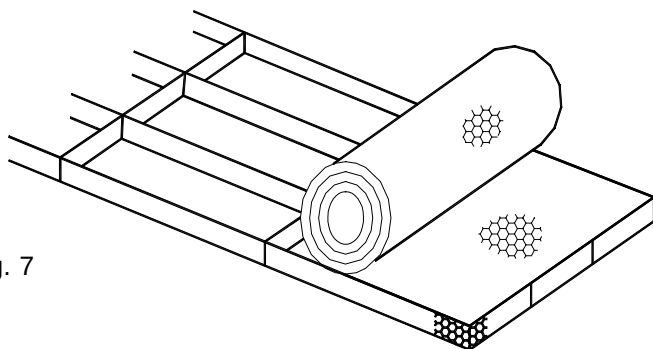

Fig. 7
6. Unroll the gabion mat lids over the rock filled bases (Fig. 7). Lids should be pulled tight so that the mesh applies pressure to the top layer of rock. Lace or ring the lid to the sides, ends, diaphragms, and adjoining gabion mats.